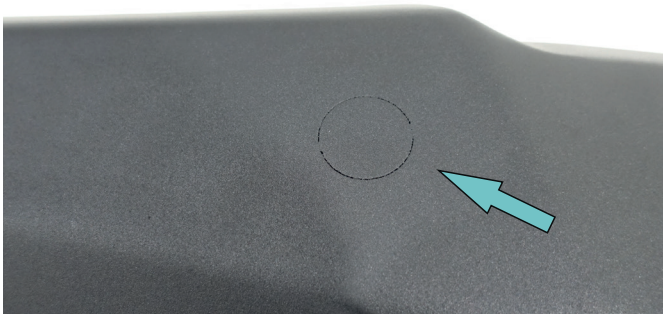

Fig. 17
17. Locate knock-outs for parking sensors on the bumper body (item 1) and knock them out by a hammer (Fig.17).